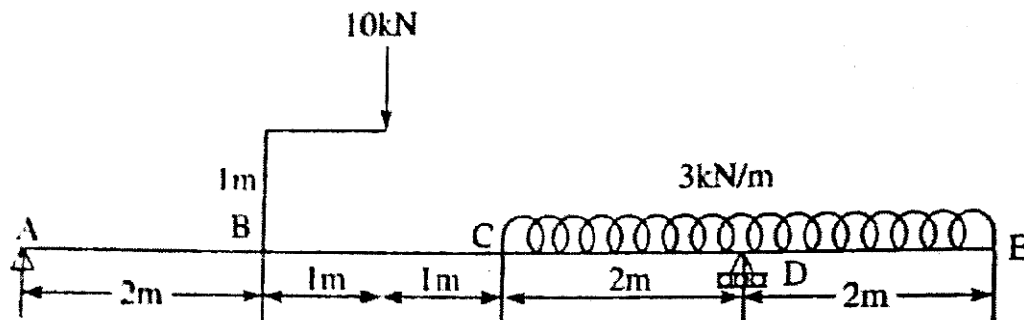

Fig. 3
- (b) Draw the SFD and BMD for the beam as shown in fig. 3. Also find the point of contra-flexure if any. [6]